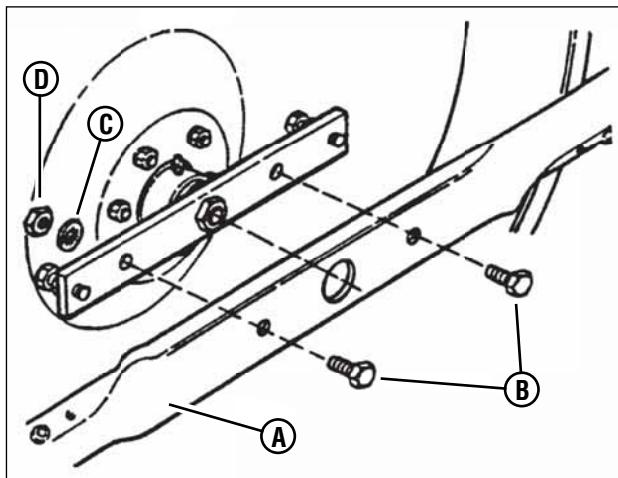

Figure 42: Removing the mower blade
3. Remove the bolts (B, Figure 42), washers (C) and nuts (D) securing the mower blade (A) to the spindle.